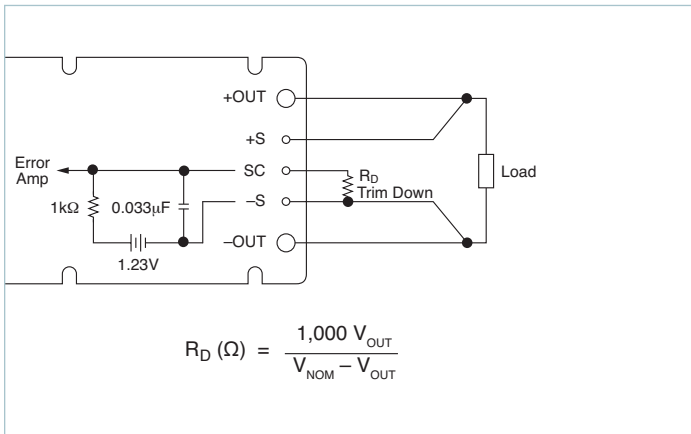

Figure 2.12a — Output voltage trim-down circuit (Maxi / Mini)
**Trim Down:** The converter is not a constant-power device; it has a constant-current limit. Hence, available output power is reduced by the same percentage that output voltage is trimmed down. Do not exceed maximum-rated output current. The trim-down resistor must be connected to the –S pin (–Out pin on a Micro). (Figures 2.12a and 2.12b)